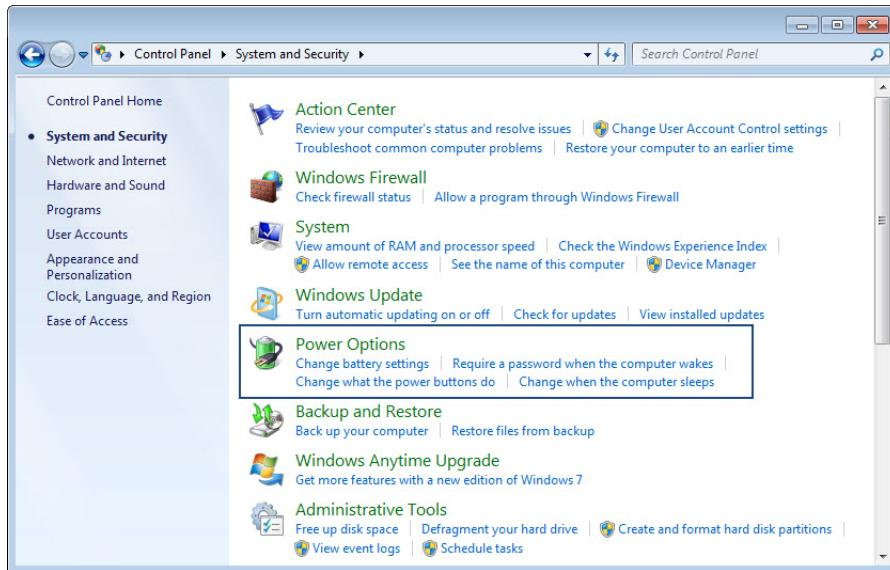

Figure 2-2. Deactivating sleep mode (A)
- 1 Under *System and Security*, choose **Power Options** (Figure 2-2).